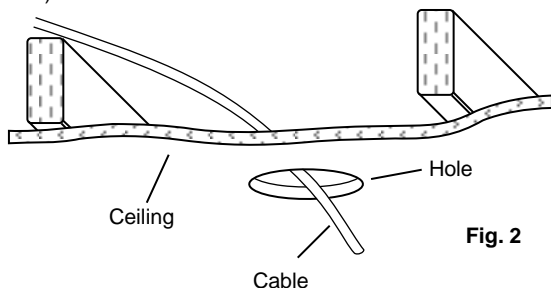

Fig. 2
3. Run non-metallic (NM) cable (also known as Romex) from your circuit breaker or fuse panel to the hole, providing 6" (15,2 cm) to 8" (20,3 cm) of slack extending below the hole. Cable having up to 12 AWG wiring may be used. (Fig. 2) (**WARNING - Use cables having wires rated 90°C or more.**)